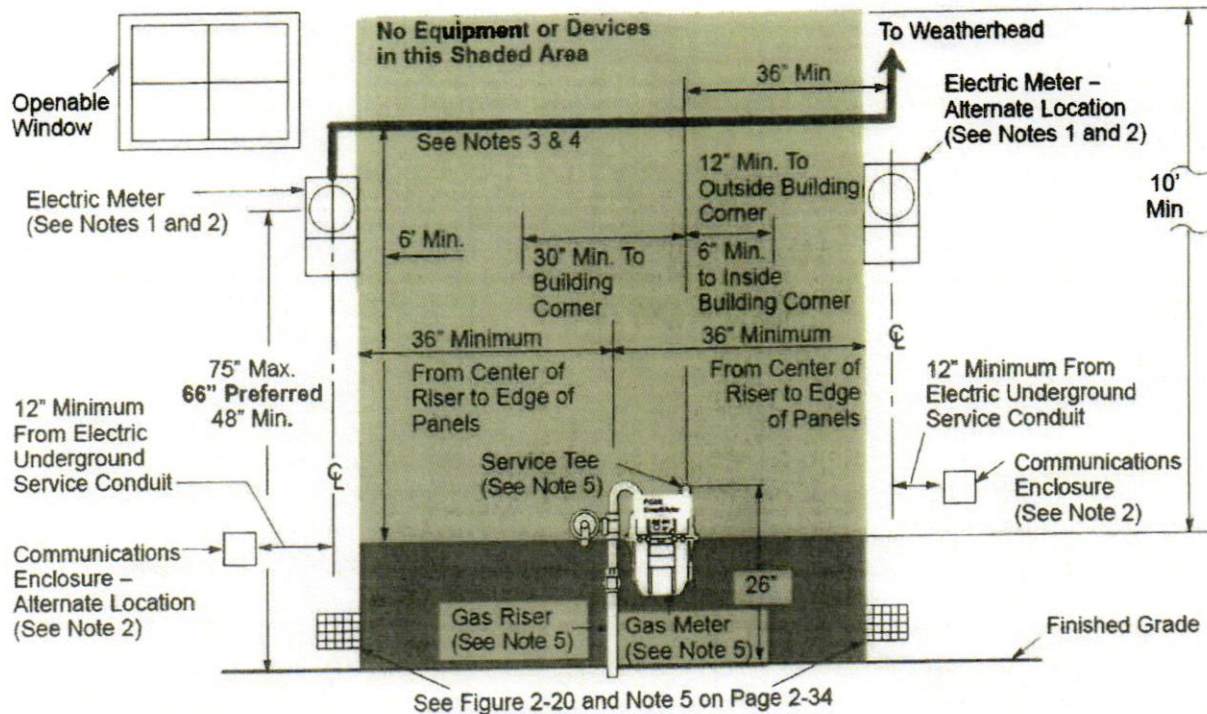

Figure 2-19
Notes in reference to Figure 2-19 (on the previous page).
4. Electric wiring for new photo voltaic or electric meter upgrades may pass through the clearance area shown in Figure 2-19 if the wires are in a metallic, continuous sleeve with no joints, couplings, or fittings. The sleeve must extend a minimum of 3 feet on either side of the meter set and must be a minimum of 6 feet above the regulator opening.
6. The minimum dimensions and clearances in Figure 2-19 are good for gas meters up to the 1,000 class. See Figure 2-14 and Figure 2-15 on Pages 2-27 and 2-28 for illustrations of clear and level working space in front of the gas meter.